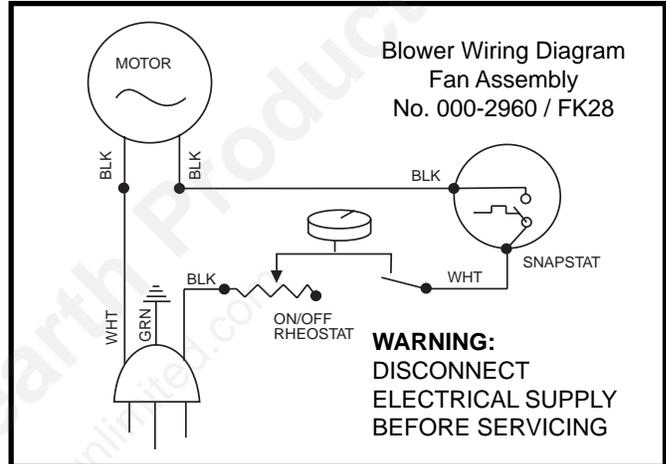

**Fig. 20** Attach rheostat to bracket.
4. The rheostat control switch attaches to the left side of the valve bracket at the front of the stove. (Fig. 20)